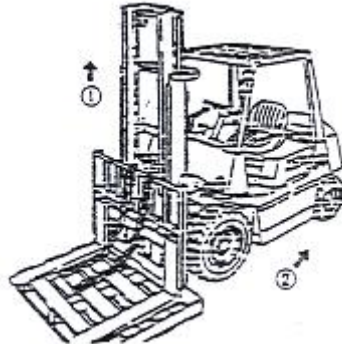

Figure 2-25
- (1) Fork a pallet and park the car on a level ground.
- (2) Drop the fork and pallet to the ground.
- (3) Remove the upper end connector of the chain and remove the chain from the sprocket
- (4) Lift the inner mast (① in Figure 2-25).
- (5) After confirming that the fork is removed from the outer mast, reverse the forklift (② in